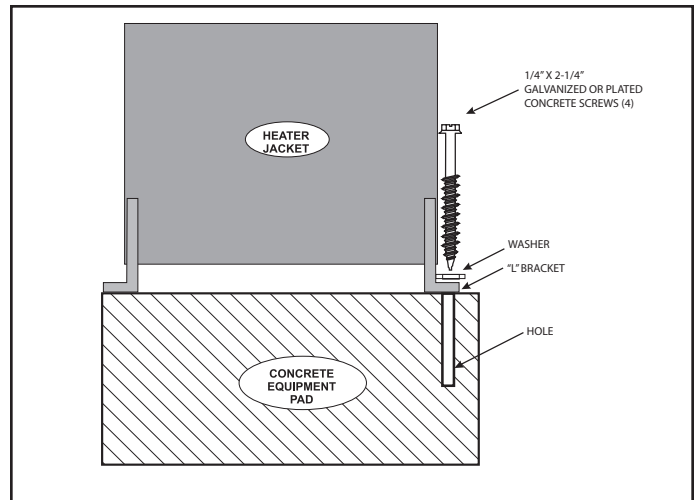

**Figure 3. Outdoor Heater Installation**
- In Canada, install the heater so that the top of the vent is at least 10 feet (3.0 m) from any building opening. See Figure 3.
- In the United States install the heater so that there is at least a three (3) foot (1 m) clearance between the bottom of the overhang to the top of the heater exhaust vent.